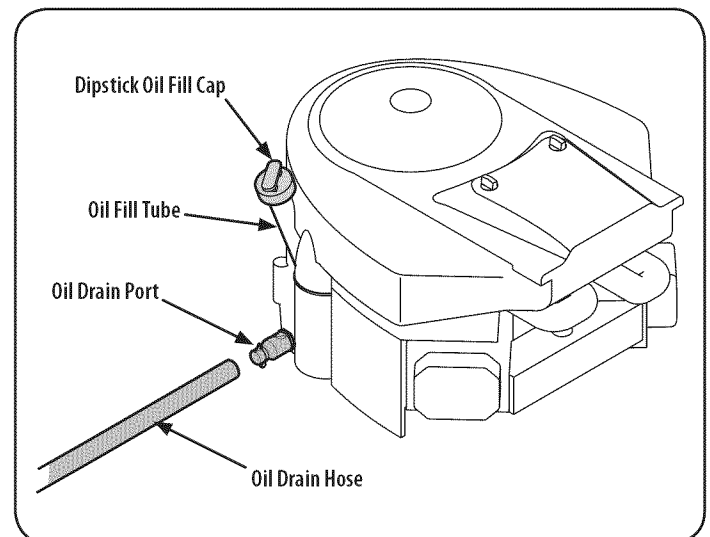

Figure 18
2. Pop open the protective cap on the end of the oil drain valve to expose the drain port. Refer to Figure 18. Remove the oil fill cap/dipstick from the oil fill tube.